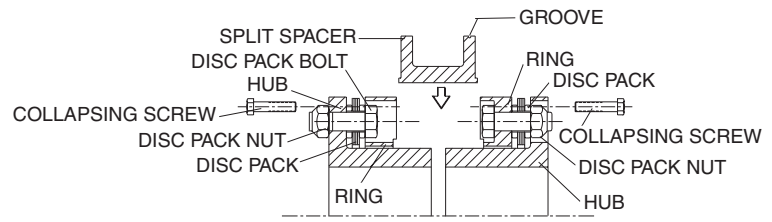

Figure 7. Hub separation.
- 5.1 Insert the collapsing bolts into the hub thru holes and thread into the ring. Draw the rings towards the hub flanges by tightening the collapsing bolts. Collapse **ONLY ENOUGH** to enable the split spacer to fit between the rings. See Figure 7.